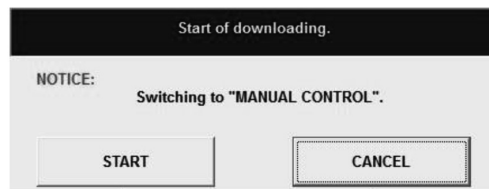

Fig.66
- ① By confirming the parameters currently in the flowmeter, make sure that the flowmeter is subject to downloading before you start downloading. If you want to retain the parameters, follow the instructions outlined in "3.11.2 Save File".
- ① Following the process of confirming the flowmeter of interest, read the data you want to download according to the procedure outlined in "3.11.1 Open File".
- ③ Click on "File (F)" at top-level menu of the screen, select "Database (F)", select "Download (T)" and click on again.
- ④ On seeing a message box like the one shown in Fig. 66, click on "START" button if you want to download data into the transmitter.